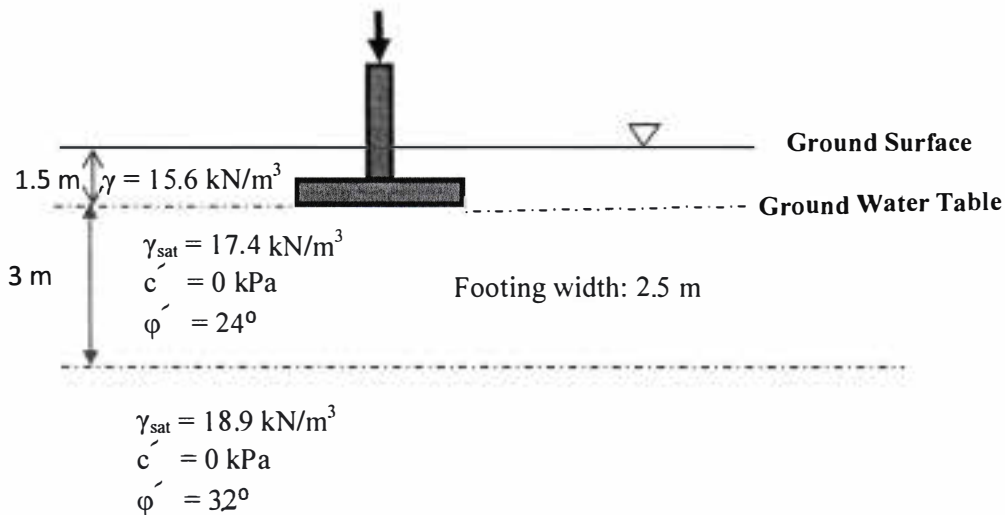

Figure 3
4. Calculate the gross ultimate bearing capacity of a 2.5 m wide strip footing in the soil profile given in Figure 3. 3